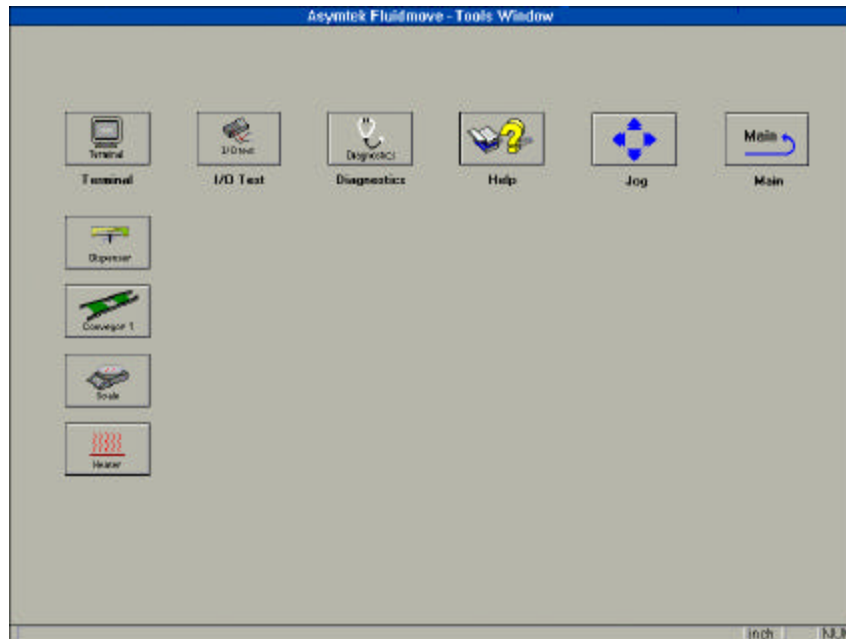

Figure 3-8
- ➔ Click on Terminal to display the drop-down buttons shown in Figure 3-8.